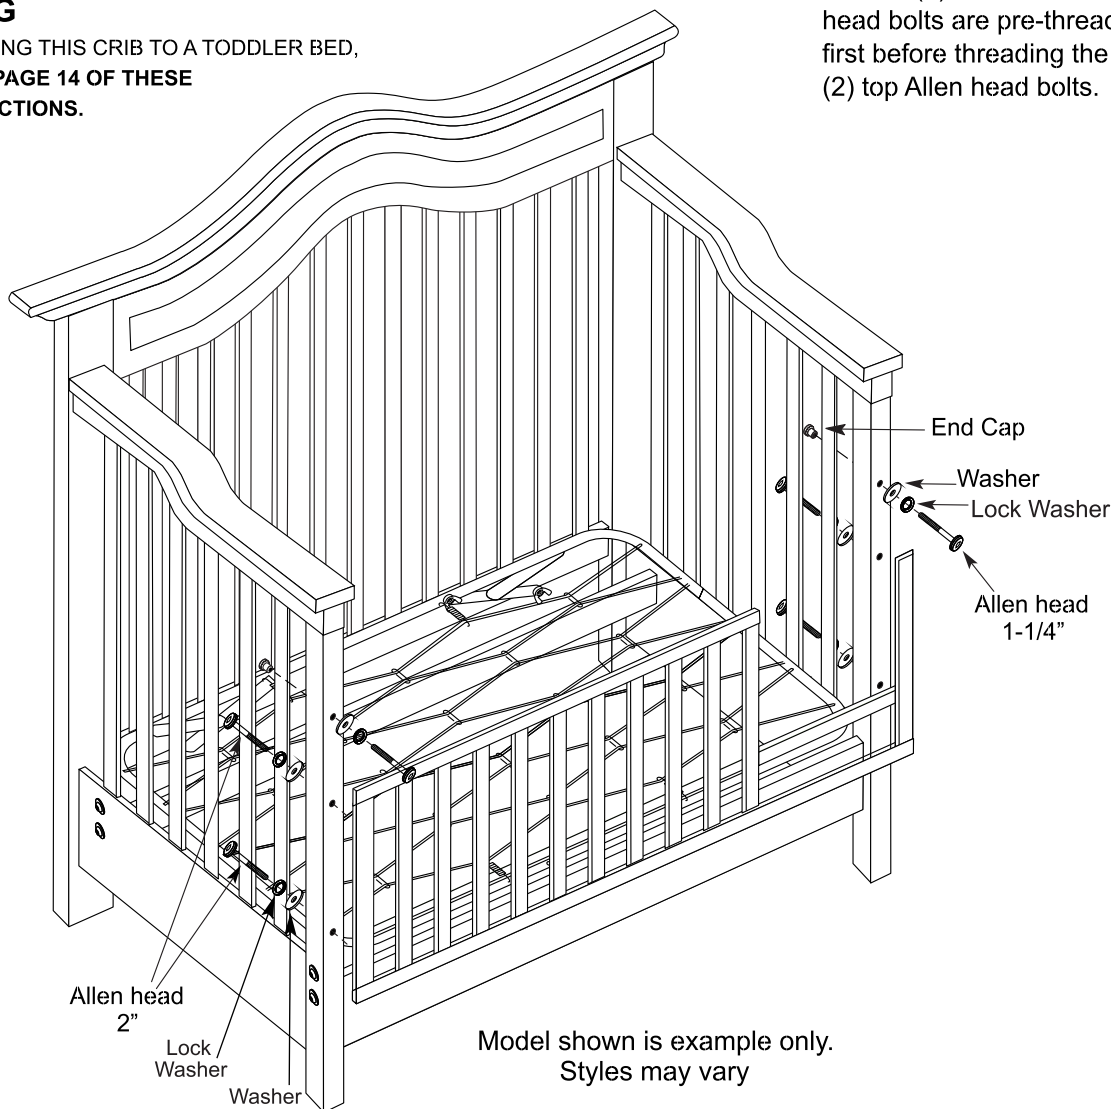

Figure 5:
B. Attach the guard rail using the 4 Allen head bolts that were used to attach the footboard. Insert the 2" Allen head bolts through the lock washers and washers, into the inside edge of the crib and then through the threaded inserts in the guard rail (Figure 5). Tighten with the Allen wrench.
C. Insert the 1-1/4" Allen head bolts through the lock washers and washers and into the remaining top holes in the crib sides as shown in Figure 5. Secure with end cap. Tighten with the Allen wrench.
A. Remove the footboard, as shown in step 4 or remove the toddler rail as shown in figure 5.